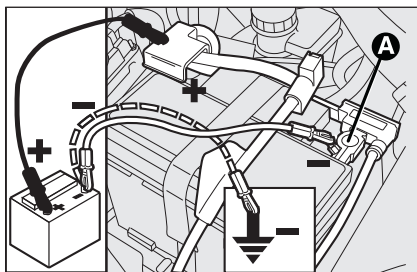

fig. 56
**JUMP STARTING fig. 56**
When jump starting, never connect the negative lead (-) of the auxiliary battery to the negative pole **A**-fig. 56 of the car battery, rather to an engine/gearbox earth point.